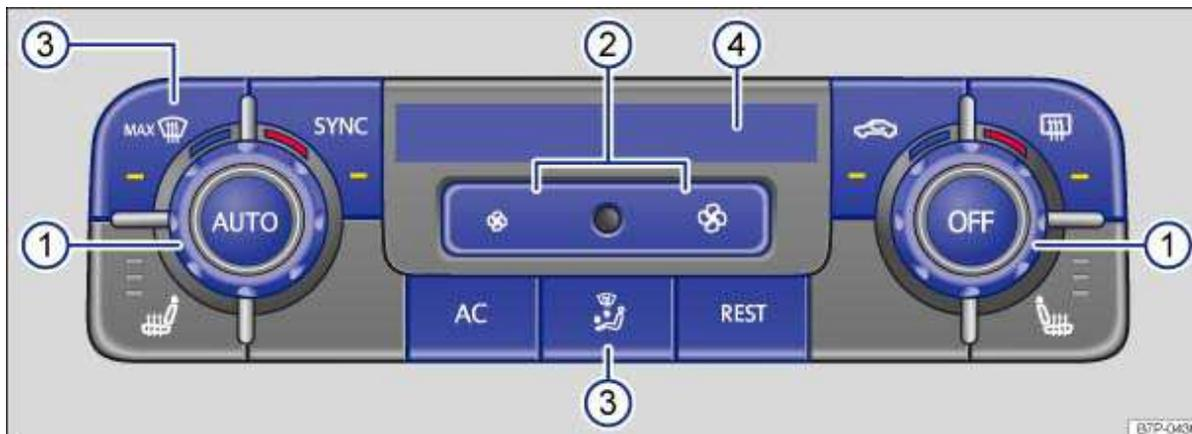

Fig. 272 In the front center console: Climatronic controls.
Press the corresponding button to switch a feature on or off. The respective button needs to be pushed several times for adjustable functions. The indicator lights in the buttons and the information shown in the Climatronic control display ⇒ fig. 272 (4) and on the Infotainment System screen provide feedback on the activation of the selected functions.